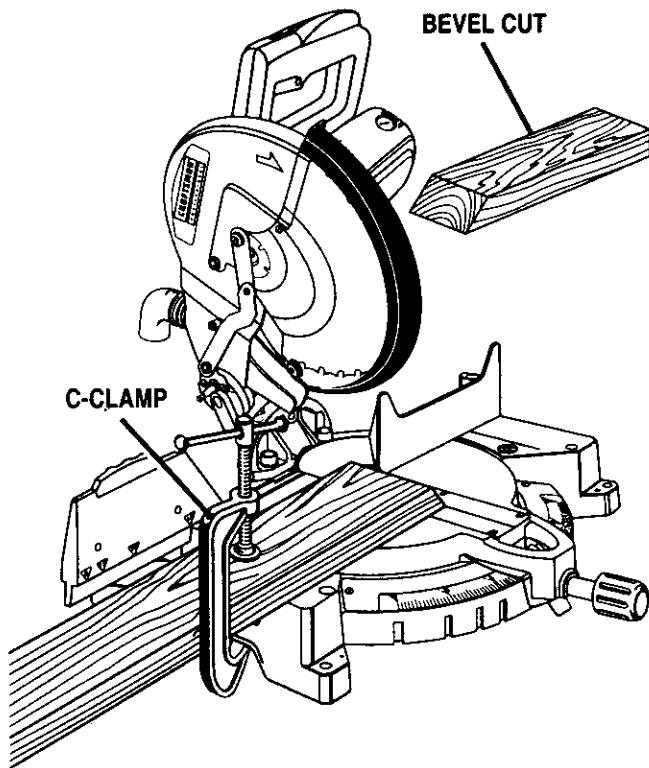

Fig. 28
- Adjustments of the miter fence must be made to correspond to the desired angle of the bevel cut **prior to tilting the saw arm**. The fence is marked for 15°, 30°, or 45°. Loosen the fence screw on the miter fence, slide the fence to the desired position, and retighten the fence screw. *See Figure 28.*
- Grasp the stock firmly with one hand and secure it against the fence. Use the work clamp or a C-clamp to secure the workpiece when possible. *See Figure 28.*
- Slowly lower the blade into and through the workpiece. *See Figure 28.*
- Adjustments of the miter fence must be made to correspond to the desired angle of the bevel cut **prior to tilting the saw arm**. The fence is marked for 15°, 30°, or 45°. Loosen the fence screw on the miter fence, slide the fence to the desired position, and retighten the fence screw. See Figures 28 and 29.